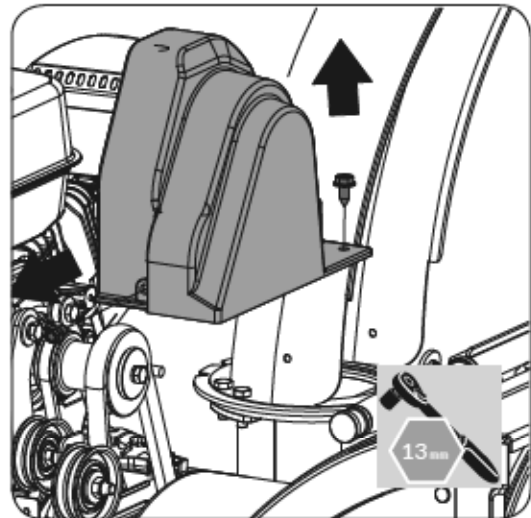

Figure 16a
2. Remove the two screws that hold the belt cover in place and set the cover aside. (See **Figure 16a**)
2. Remove belt cover. (See Figure 16a)